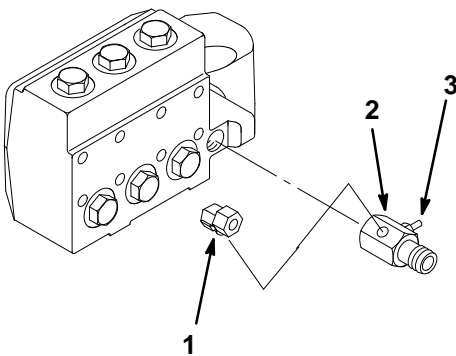

Figure 4
10. Install the stainless steel fitting into the inlet side of the pump using pipe sealant (Fig. 4).